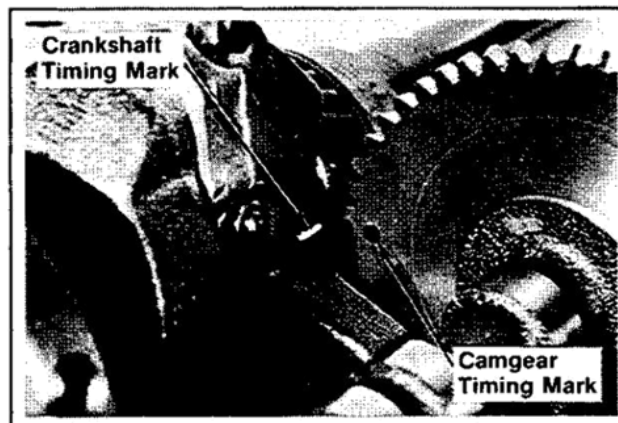

Figure 11-14. Aligning Crankshaft And Camgear Timing Marks.
3. Place the camshaft into the #1 side of crankcase. Make sure the timing mark on crankshaft aligns with the timing mark on camgear. Refer to Figure 11-14.